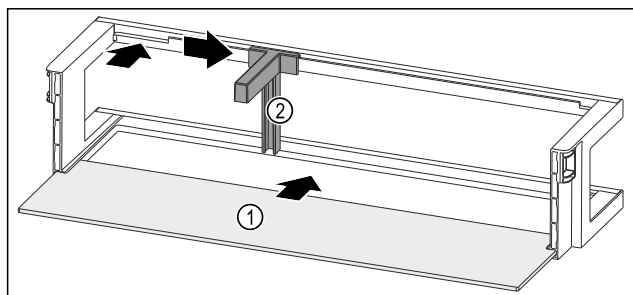

Fig. 150 Door rack with shelf
- ▶ Push the shelf Fig. 150 (1) into the side recesses.
- ▶ Insert the bottle holder Fig. 150 (2) in the recess.
- ▶ Push the bottle holder Fig. 150 (2) to the desired position to the side.